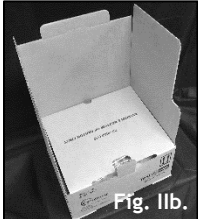

Fig. 2b.
4. Start with the flap marked "TOP INNER FLAP." Fold down, tucking end into carton. (See Fig. 2b.)